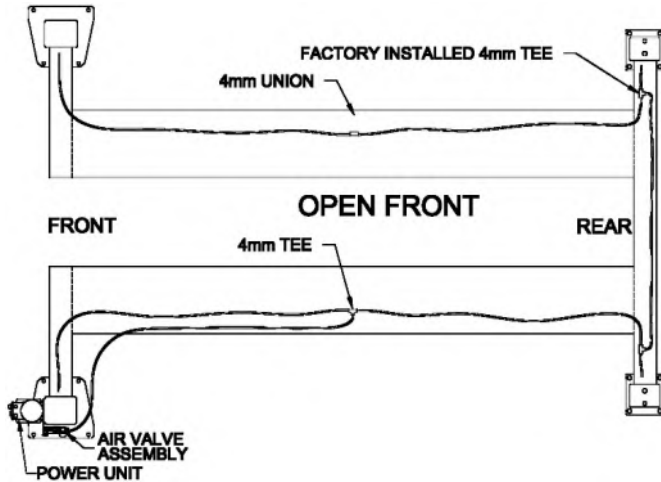
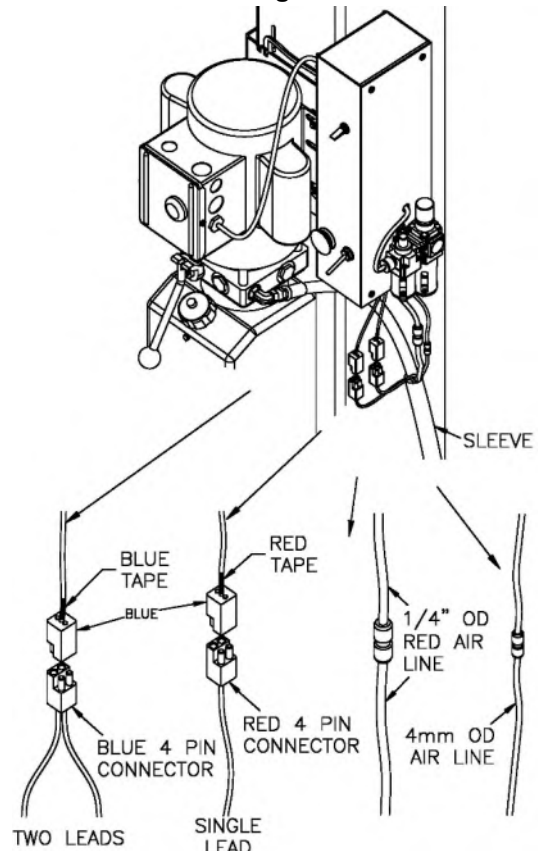

Fig 27 – Lock Release Air Line Routing
Fig 37 – Light Connection and Red Air Line
- 47) For the L&L, install the 4mm air line into the 4mm union shown in **Fig 37**. For all other lifts install 4mm air line into the air valve assembly. For all lifts, route the airline thru opening in runway to Tee. See **Fig 27**
- 81) At the control box, connect the red air line to the 1/4" union. Connect the connector with Red Tape to the Red Four Pin Connector. Connect the connector with Blue Tape to the Blue Four Pin Connector. See **Fig 37**